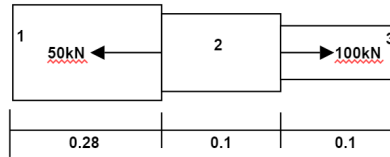

Figure 3
- (a) Analyze the axially loaded structure as shown in Figure 3. [7M]